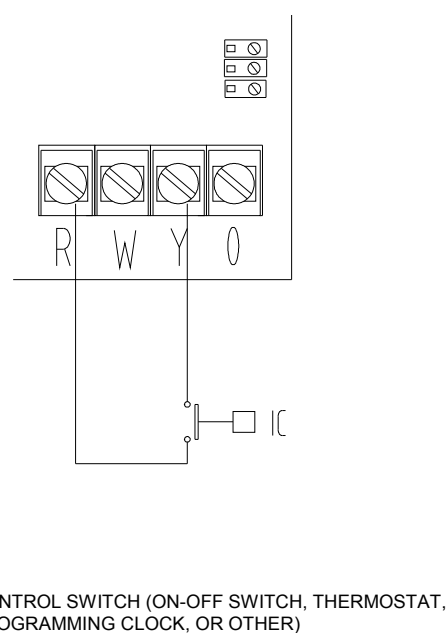

Figure 18 – Control switch connection
3. Connect the control switch to the **R** and **Y** connection terminals of the ACF control circuit (see detail IC of Figure 18 on page 54).